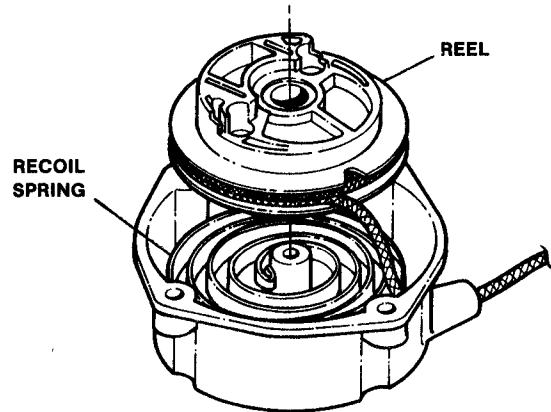

FIGURE 5.3
- C. After the starter rope is completely unwound, the reel should lift free from the recoil spring. See Figure 5.3.